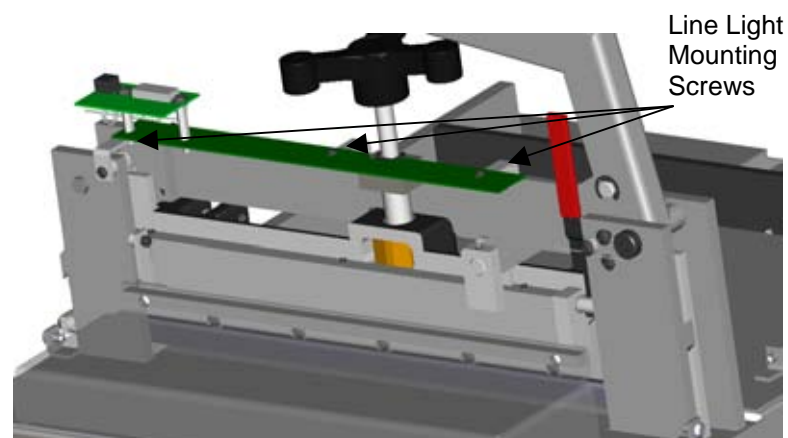

Figure 16
2. Loosen the three line-light mounting screws (Figure 16, page 17).